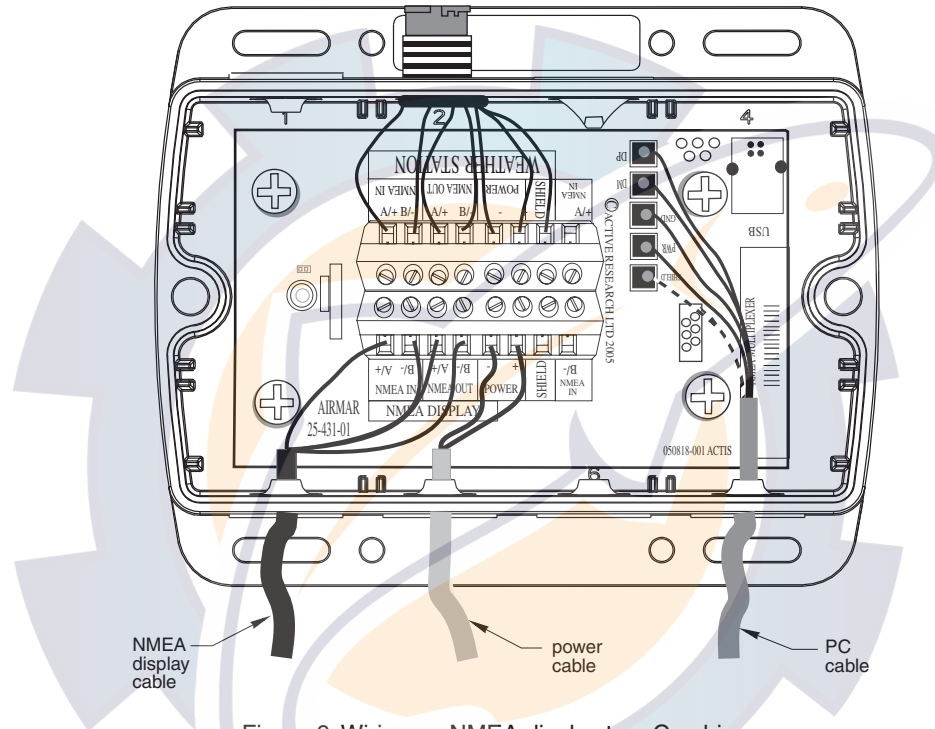

Figure 9. Wiring an NMEA display to a Combiner
- Push approximately 200mm (8") of the cable through the grommet (see Figure 9). To ease sliding, apply alcohol to the cable jacket.